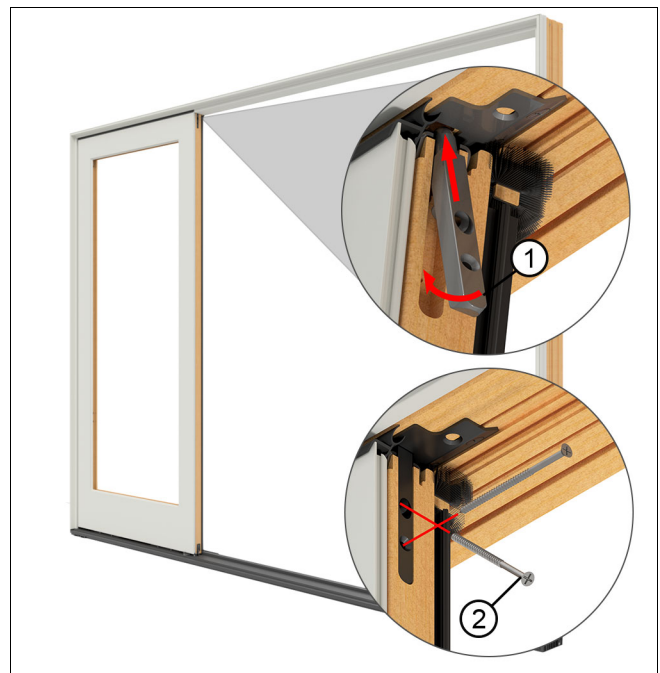

Figure 33
7. Install the end of the stationary bolt into the head jamb plate. Slide the bolt into place and fasten to the stationary panel with the two #8 x 3" screws. Note that the top screw is installed at an angle. You will need to push up on the head jamb to allow the stationary bolt to engage in the plate. See Figure 33.